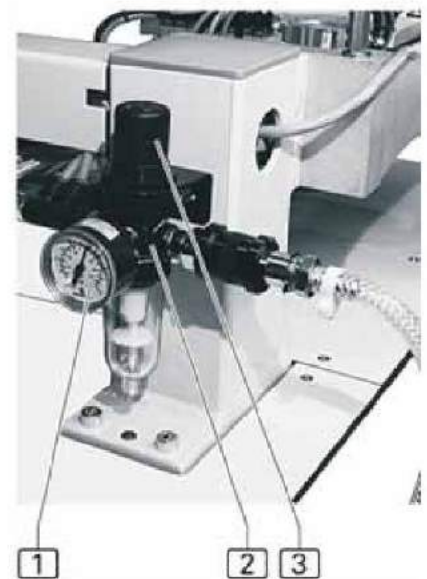

fig. 10
- If the details for voltage (V) and maximum current (A) do not match, the machine must not be connected.
2. **fig. 10:** Control the compressed air supply.